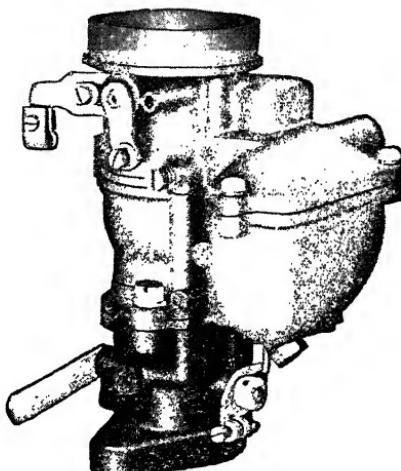

Fig. 40. Zenith IN-180 Down-Draft Carburetor
**“IN-180” Series Carburetors.** The Zenith “IN-180” Series carburetor, Fig. 40, has been especially designed to meet every condition encountered in down-draft carburetion. This includes provisions in design that insure positive, smooth idling, elimination of over-choking, and other difficulties already known to many users of down-draft carburetors.